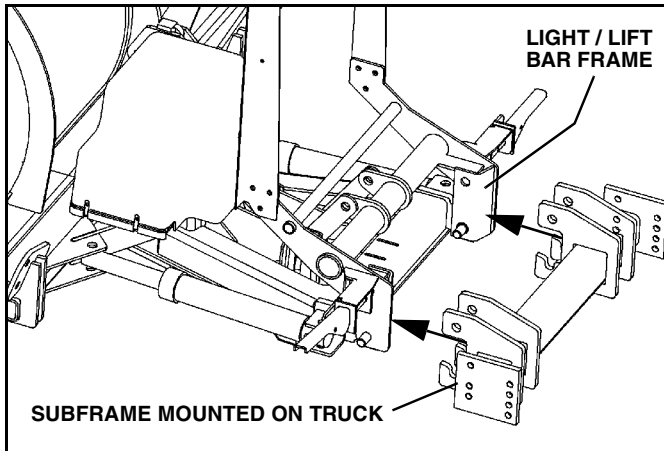

Figure 1-17
1. Drive truck into plow. Align light/lift bar frame inside of subframe lugs. Pins should fit inside slots cut into subframe lugs. (See Figure 1-17).